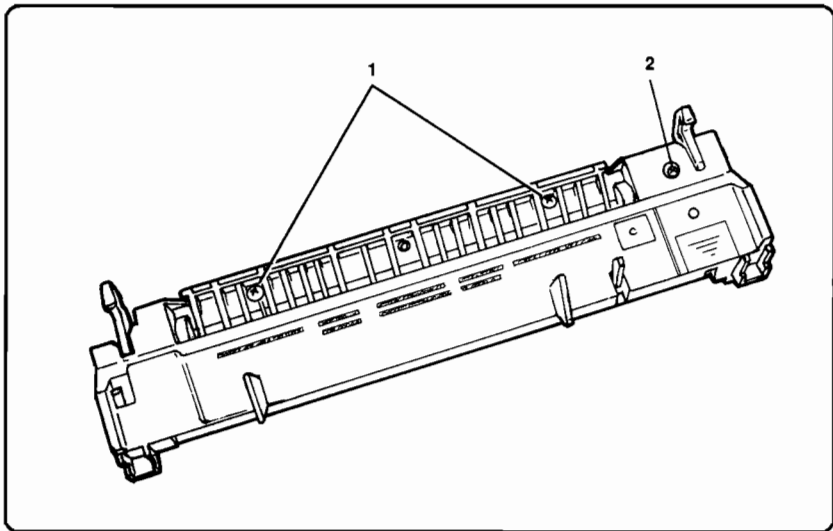

Figure 6-60. Upper Fusing Roller Removal
4. Turn the Fusing Assembly over and remove the the Fuser Entrance Guide (2 screws with washers - Figure 6-60, callout 1).
5. Remove the Door Release Button retaining screw (1) (Figure 6-60, callout 2).